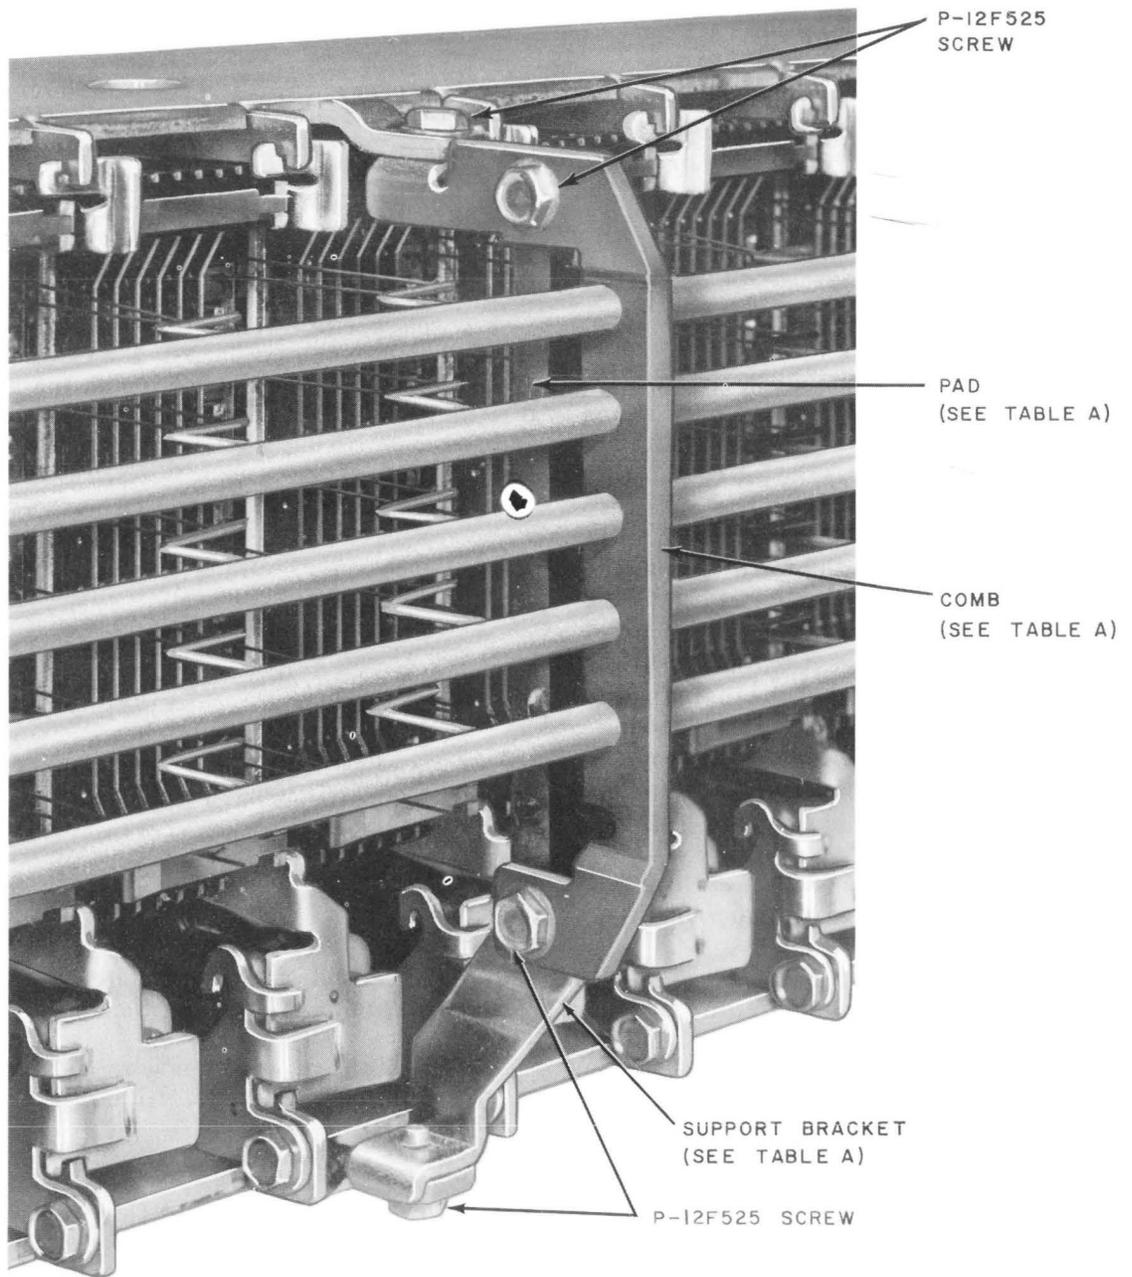

Fig. 2—Partial Front View of Switch Showing Comb and Support Bracket
(1) Remove the center support bracket comb mounting screws (Fig. 2) using the 541A wrench. Remove the comb and pad.
(2) Loosen the pivot screw locknut at both ends of the selecting bar with the 541B wrench.